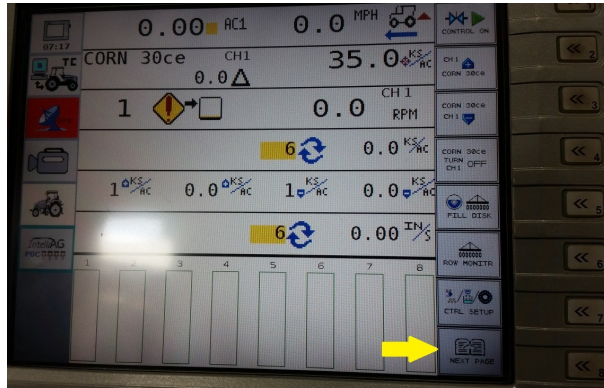

Figure 51
Step 2. Push **Next Page**. (Figure 51)